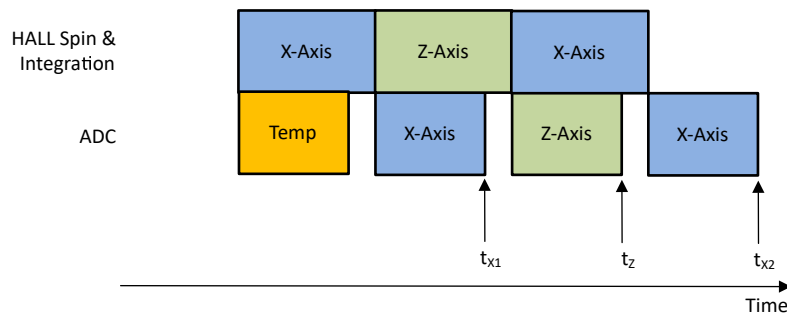

Figure 7-3. XZX Magnetic Field Conversion
In absolute angle measurement, application sensor data from multiple axes are required to calculate an accurate angle. The magnetic field data collected at different times through the same signal chain introduces error in angle calculation. The TMAG5173-Q1 offers pseudo-simultaneous sampling data collection modes to eliminate this error. Figure 7-3 shows an example where MAG_CH_EN is set at 1011b to collect XZX data. Equation 13 shows that the time stamps for the X and Z sensor data are the same.
- t_{x1} , t_z , t_{x2} are time stamps for X, Z, X sensor data completion as defined in Figure 7-3.